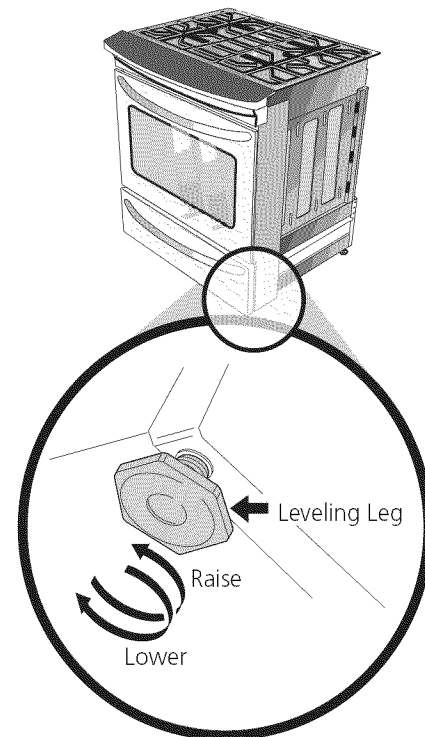

Figure 17
4. Level range if necessary, by adjusting 4 leg levelers with wrench (Figure 17). A minimum clearance of 1/8" (0.8 cm) is required between the bottom of the range and the rear leg levelers to allow room for the anti-tip brackets.